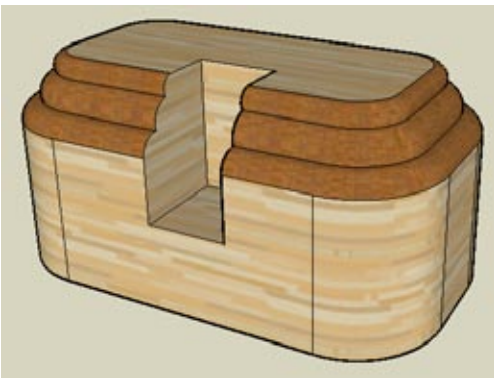

Figure 4-6
4. Select the Follow Me path. To do so, you could click each individual edge, but an easier way is to double-click the top face *plus* all four edges that compose the notch. Then use Follow Me to extrude the face around the remaining selected edges (Figure 4-6).